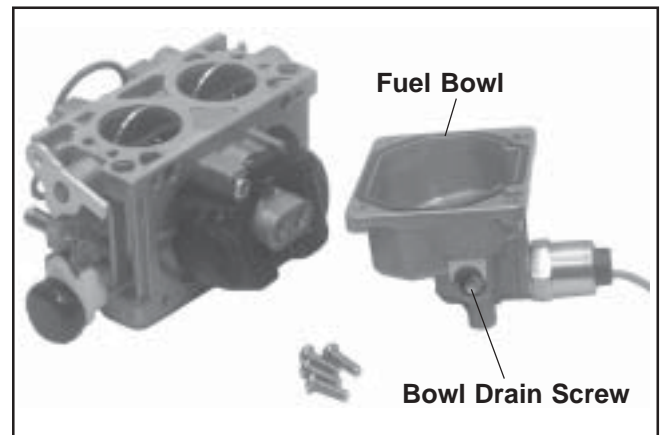

Figure 5-16. Fuel Bowl Removed From Carburetor.
2. Clean the exterior surfaces of dirt or foreign material before disassembling the carburetor. Remove the four mounting screws and carefully separate the fuel bowl from the carburetor. Do not damage the inner or bowl O-Ring. Transfer any remaining fuel into an approved container. Save all parts. Fuel can also be drained prior to bowl removal by loosening/removal of the bowl drain screw. See Figure 5-16.